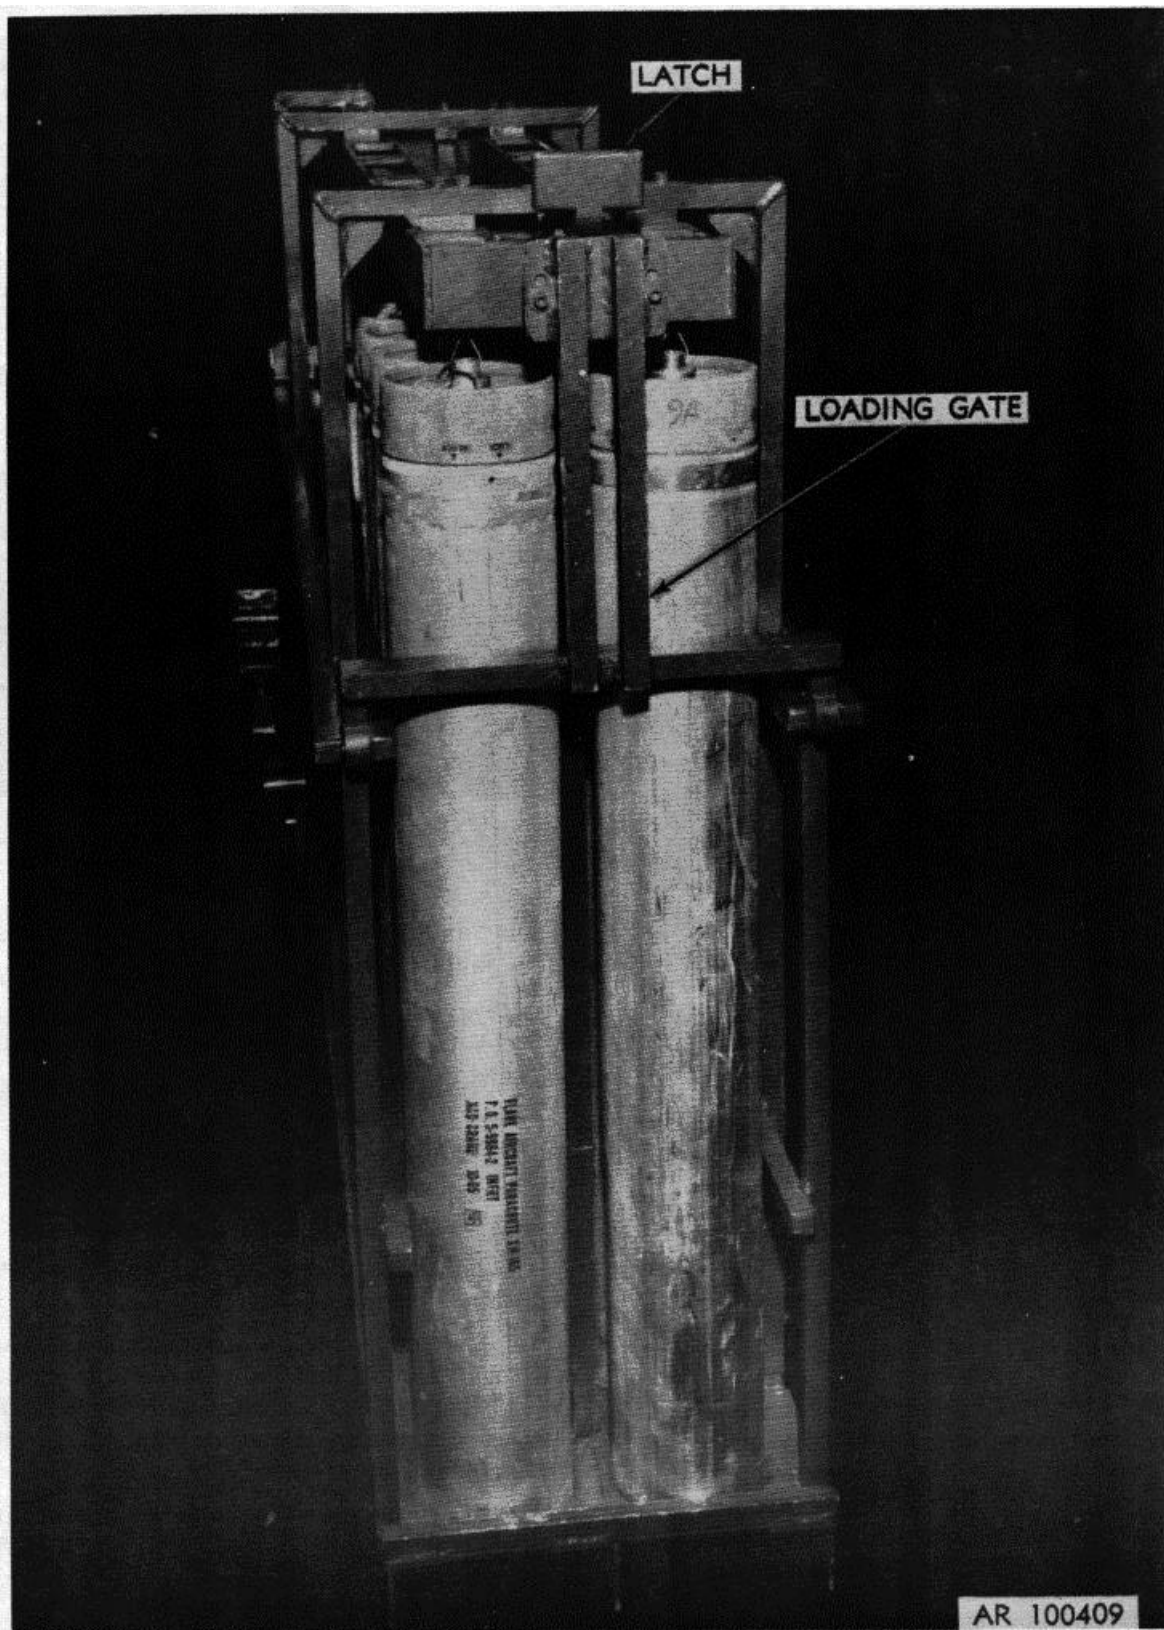

Figure 2-10. Loading gate installed (after loading of flares).
(8) When dispenser assembly has been loaded to capacity (24 flares), replace loading gate by setting gate on support pins and closing latch (fig. 2-10).
(9) Stow spare static lines XM164 on board helicopter for possible use if dispenser becomes inoperable during mission.